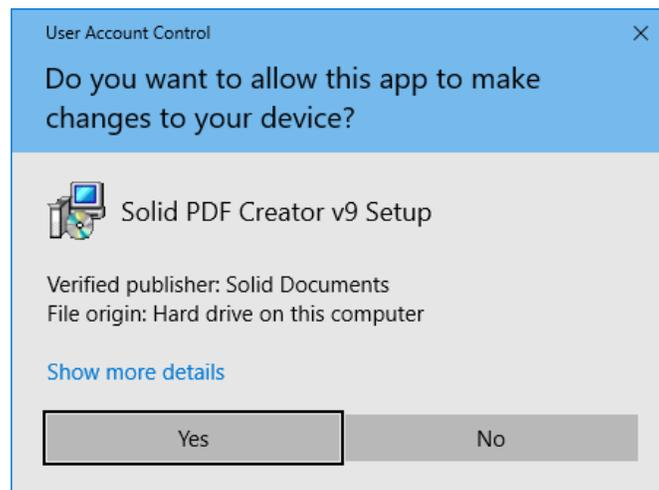

Figure C-2 Solid PDF Creator User Account Control
- 4) Click *Yes* to start installing the *Solid PDF Creator* software. See Figure C-2